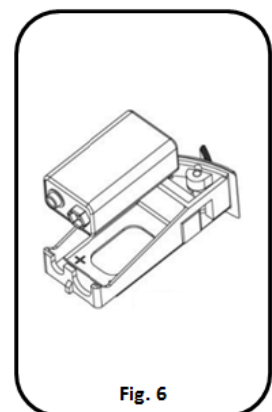

Fig. 6
- Install a new 9V alkaline battery (Duracell or Energizer brands are recommended) into the compartment. The battery compartment will only receive the battery when the positive and negative terminals are oriented correctly. See Fig. 6